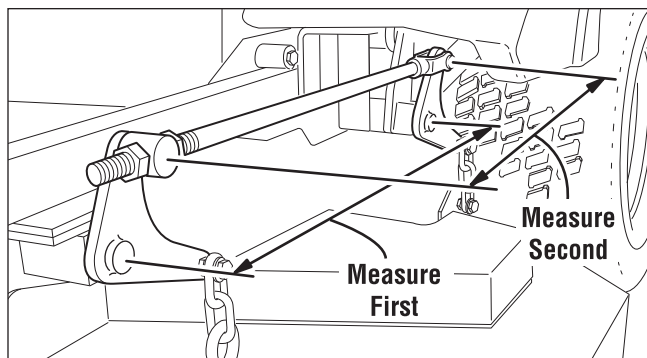

Figure 39. Measure the Inner & Outer Lift Rods
2. To check the deck lift rod timing, measure and record the distance between the lift pivots and the rod pivots. Repeat for other side of unit. See Figure 39.